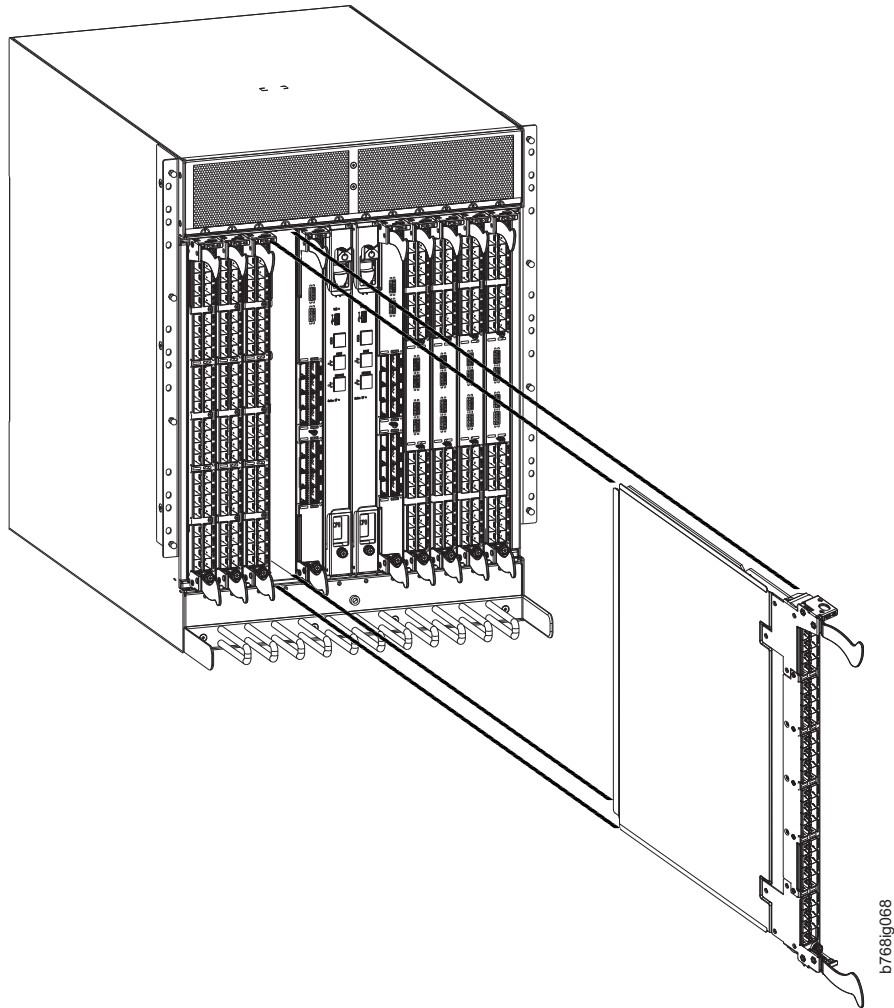

Figure 33. Port and application removal and installation (FC16-48 port blade shown as example)
8. Unscrew the two thumbscrews from the top and bottom ejectors on the blade (see Figure 33 on page 86) using the Phillips screwdriver. Unscrew the top thumbscrew until it pops out. This initiates a hot-swap request.
10. Open the ejectors by rotating them toward the center of the blade face. Pull the blade out of the chassis using the ejectors (Figure 33 on page 86).